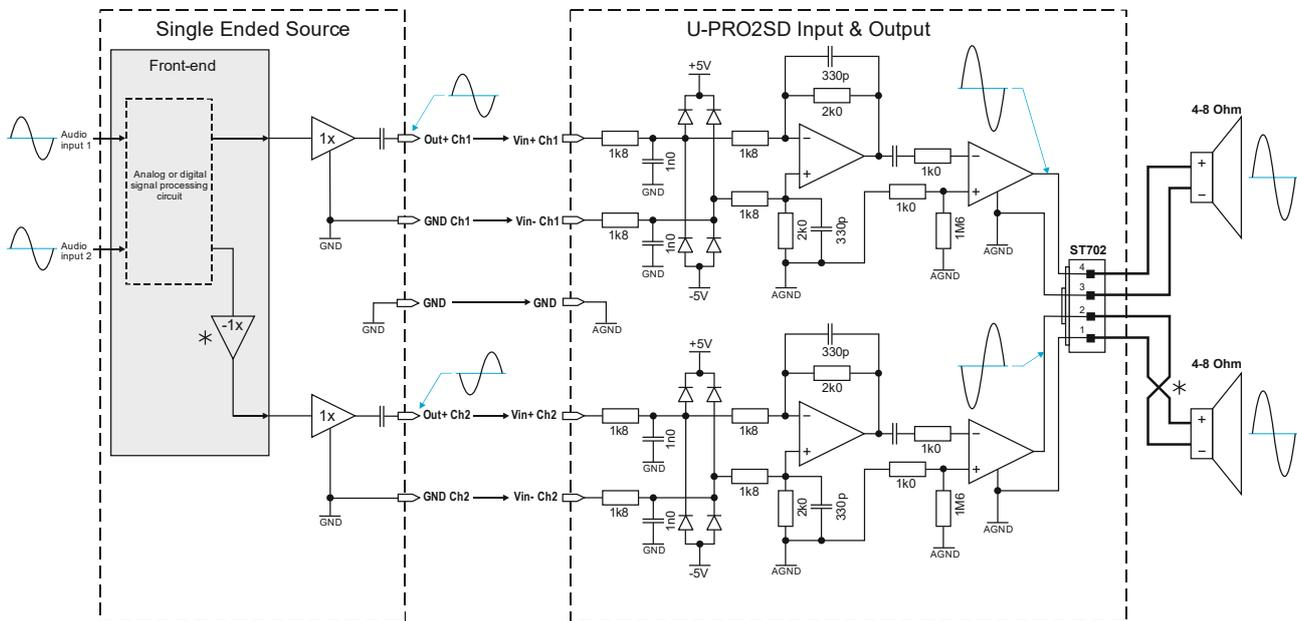

Figure 5-2: U-PRO2SD Amplifier module shown in Single Ended (SE) configuration driving two identical LF/MF loads
**NOTICE** The \* marking in Figure 5-2, indicates that input and output of channel 2 must be inverted to reduce pumping.